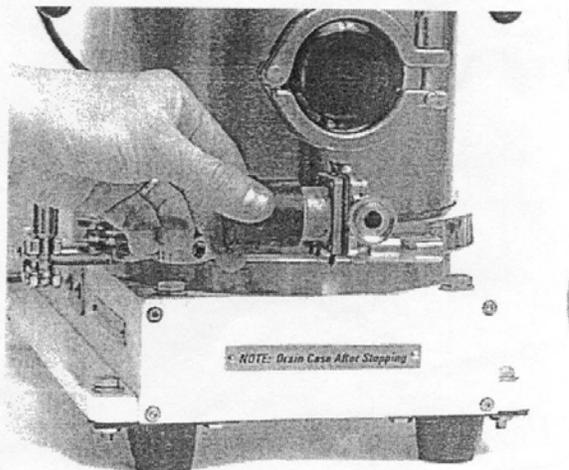

Figure 4
- 5.1.6 Close the drain valve located at the bottom of the hosing (Attachment I, Figure 4). Open the valve occasionally to prevent any bowl overflow form accumulating in the case. Discard any material collected as waste.
- 10.1.4 Figure 4 – Bowl Overflow Drain Valve